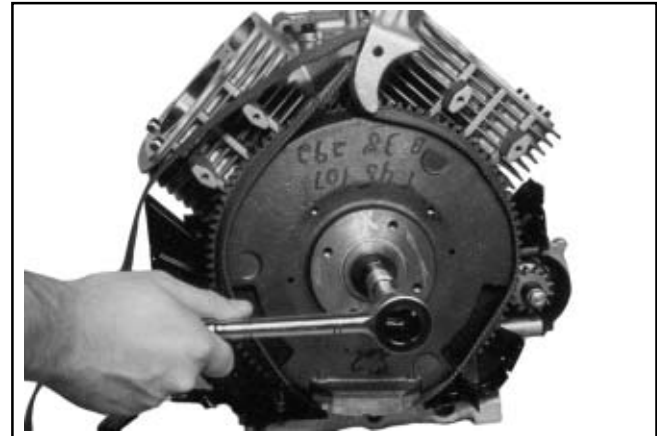

Figure 9-57. Removing Flywheel Fastener Using Strap Wrench.
1. Use a flywheel strap wrench or holding tool (see Section 2) to hold the flywheel and loosen the hex. flange screw securing the flywheel to the crankshaft. See Figure 9-57.